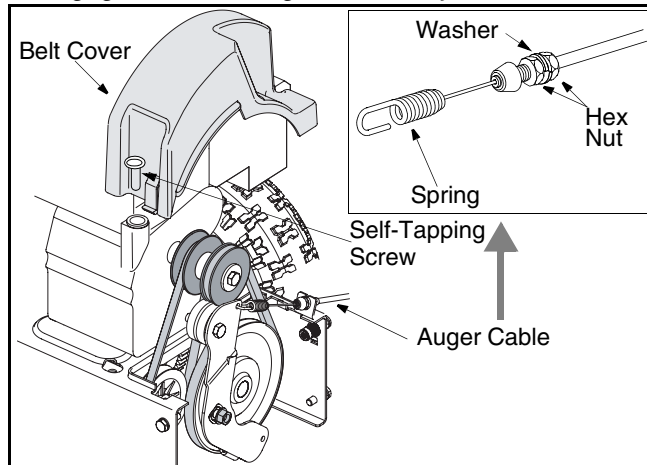

Figure 7
- Tighten two hex nuts on the auger cable towards the spring to increase the tension on the auger belt. See Figure 7.